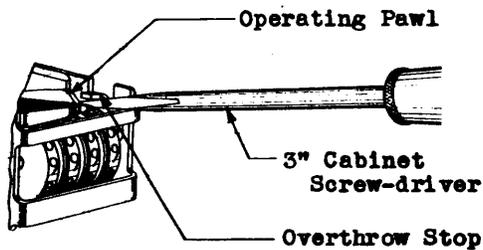
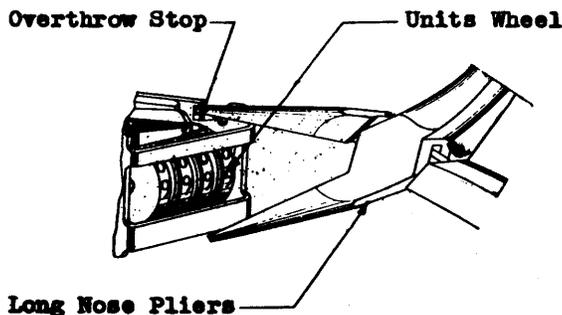

Fig. 10 - Method of Adjusting Overthrow Stop Upward
Fig. 11 - Method of Adjusting Overthrow Stop Downward
(6) To provide a clearance between the overthrow stop and the pawl, pry the overthrow stop upward using the 3-1/2-inch cabinet screwdriver as shown in Fig. 10. To decrease the clearance between the overthrow stop and the pawl, force the overthrow stop downward with the long nose pliers. Apply the pressure at the free end of the stop as shown in Fig. 11.